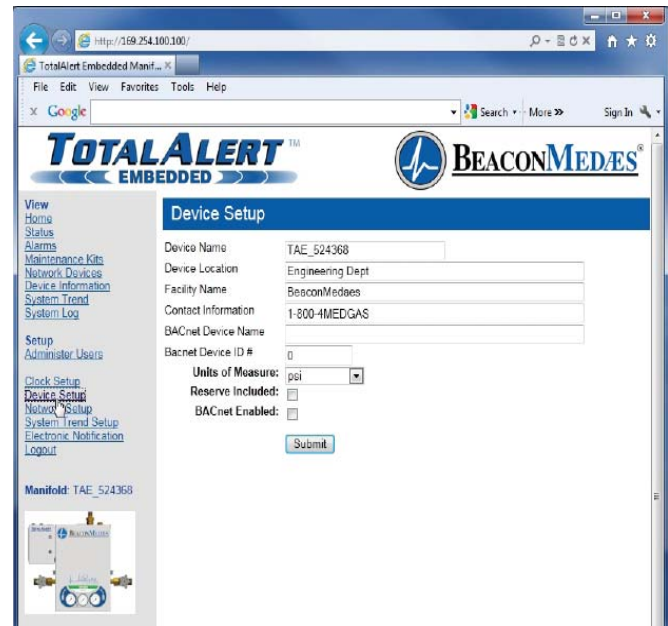

Figure 32: Device Setup
4. The left sidebar will now contain the setup links (Figure 32).
This Device Setup page (Figure 32) is used to configure the manifold name, location, facility name, and contact information.